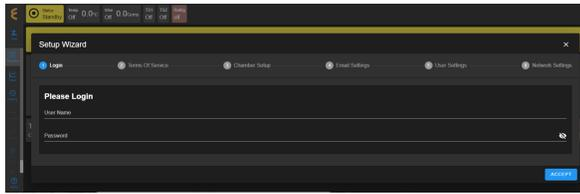

Figure 1.5: Login prompt in the Setup Wizard page.
- 9. The user interface of EWC appears in the Web browser as depicted in Figure 1.5.